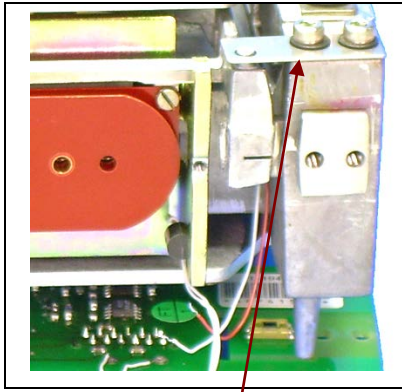

Figure 3-67. Sideways Motion Stop Plate.
5. Position the Sideways Motion Stop Plate so the small post in the Ratio Beam is centered in the hole in the Stop Plate. Then insert and tighten the two screws and washers. (See Figure 3-67.)